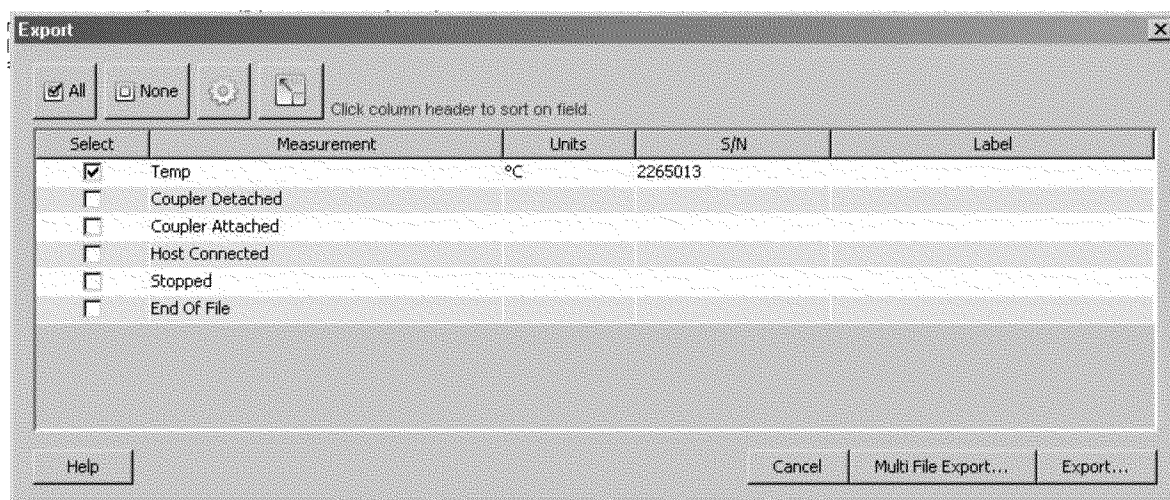

Figure 4-3: HOBOWare Pro® Export Table Dialogue
- d. With the plot open, click File→Export Table Data. The Export box will pop up (Figure 4-3).